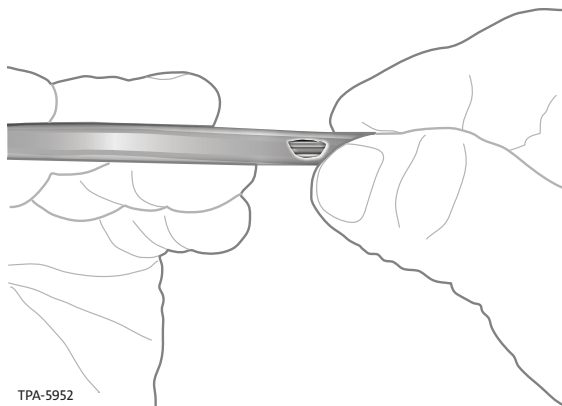

Figure 20
Step 1: Peel subunit with fingernail to expose ribbons (Figure 20).